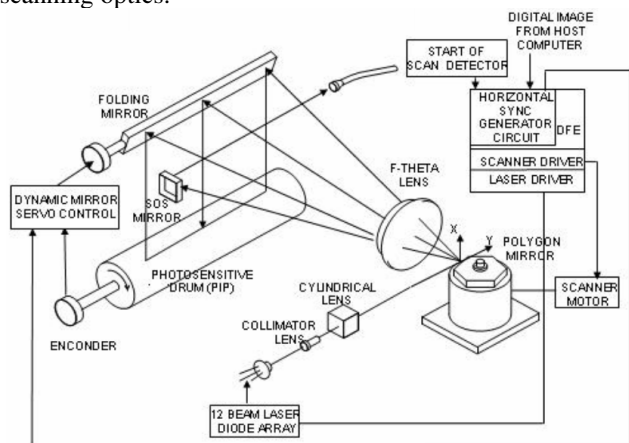

Figure 5. Laser Imager / Writing head diagram
- SOS (Start of Scan) sensor that detects the beginning of each line, so that the SOS sensor also acts as the scanner motor encoder (figure 5).